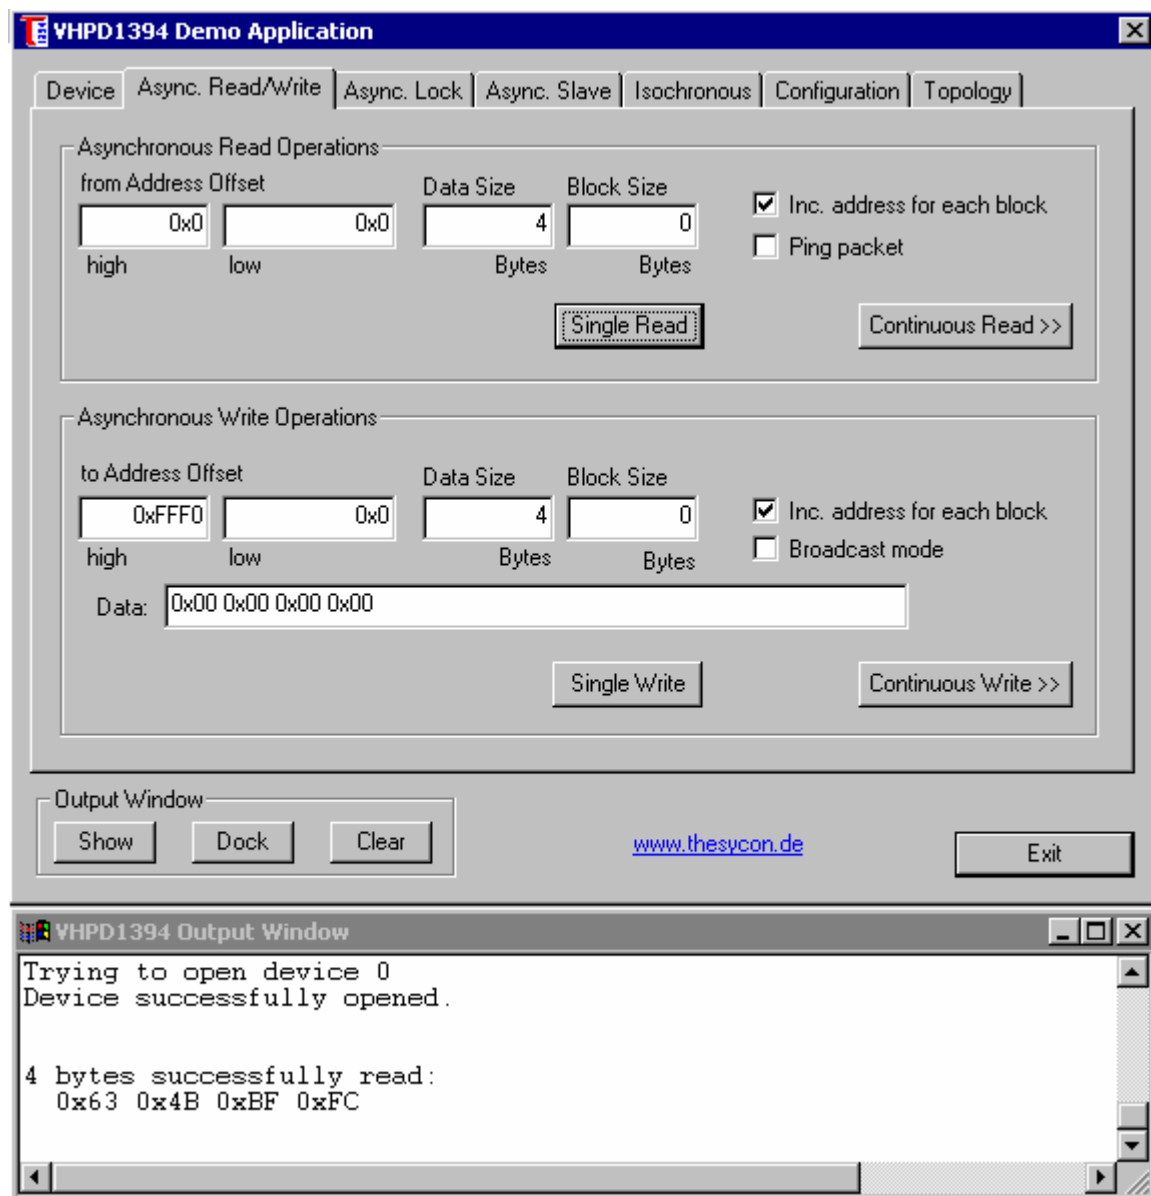

Figure 17: Incoming asynchronous transactions (VHPD demo)
- in the "Asynchronous Read Operation" section of VHPD demo: change address offset high from 0xFFFF to 0x0 as shown in Figure 17
- now the status and the read data are displayed (also shown in Figure 17)